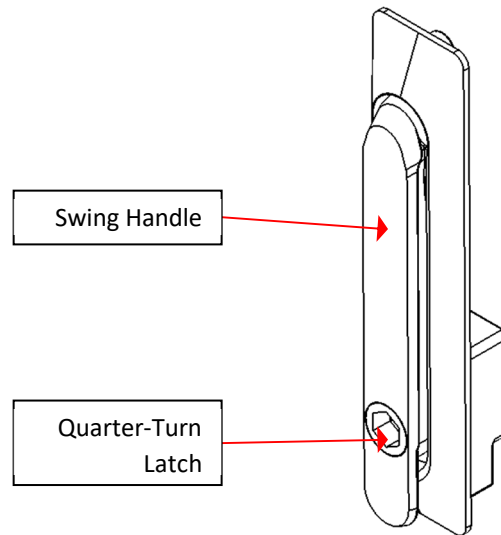

Figure 2-9: Front Door Swing Handle Access
1. Ensure that the Swing Handle is in its fully open position (refer to Figure 2-9).
4. Use a 10mm male hex wrench to latch (turn clockwise) the Quarter-Turn Latch to lock the Swing Handle (refer to Figure 2-9).